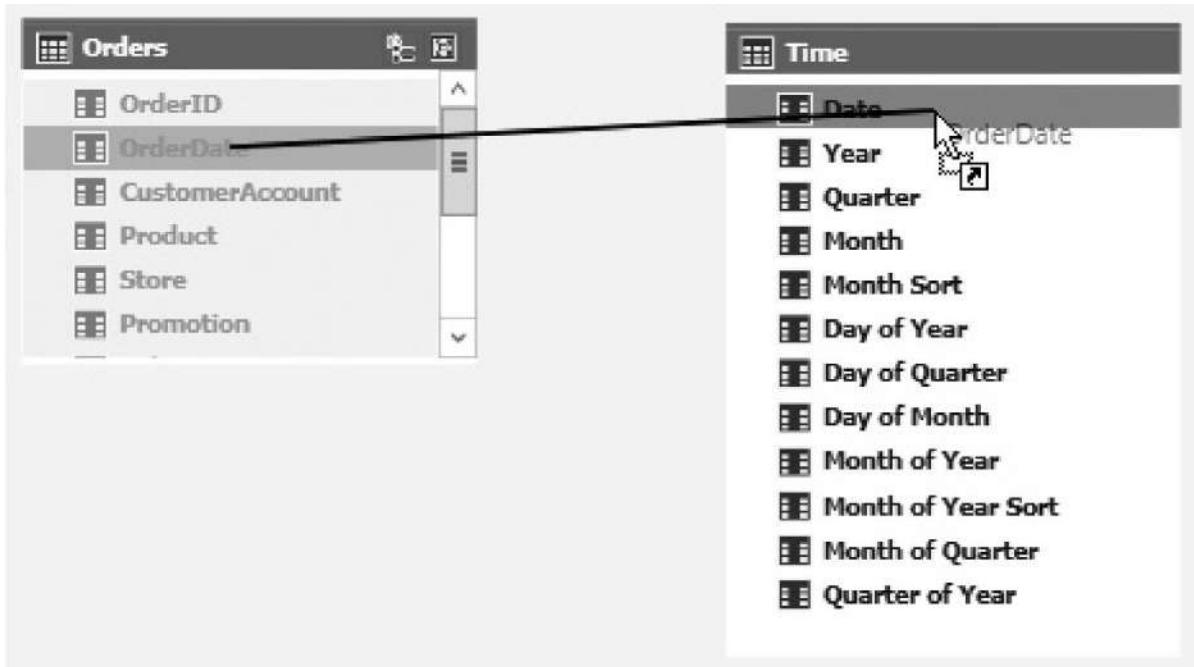

Figure 9-19 Creating a relationship in the diagram view
8. Drag the OrderDate field from the Orders table and drop it on the Date field in the Time table, as shown in Figure 9-19. (The OrderDate field is